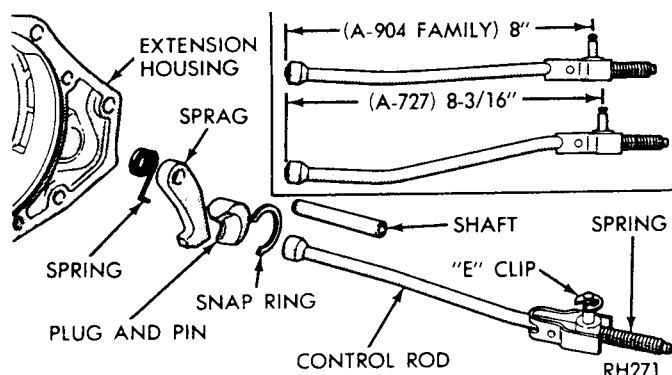

Fig. 12—Parking Lock Components
(1) Remove extension housing as previously described.
(2) Slide shaft out of extension housing to remove the parking sprag and spring (Fig. 12). Remove snap ring and slide the reaction plug and pin assembly out of the housing.
(3) To replace the parking lock control rod, refer to "Valve Body—Removal and Installation."
(1) Install reaction plug and pin assembly in the housing and secure with snap ring (Fig. 12).
(2) Position sprag and spring in housing and insert the shaft. Make sure square lug on sprag is toward parking gear, and spring is positioned so it moves sprag away from the gear.
(3) Install extension housing.